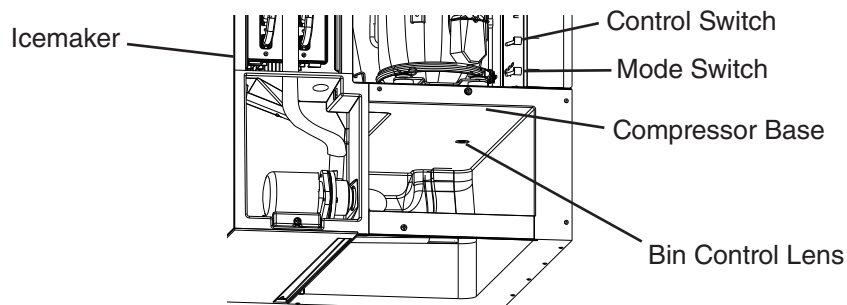

Fig. 21
- 6) Move the control switch to the "OFF" position, wait 2 min., then move the control switch to the "ON" position. 1 min. fill cycle begins. Place an object 5" to 7" (127 to 178 mm) away from the bin control lens. See Fig. 21. 15 sec. later, the icemaker shuts down. Remove the object from the bin control lens. 30 sec. later, the icemaker restarts. For bin control shutdown times per cycle, see the table below.